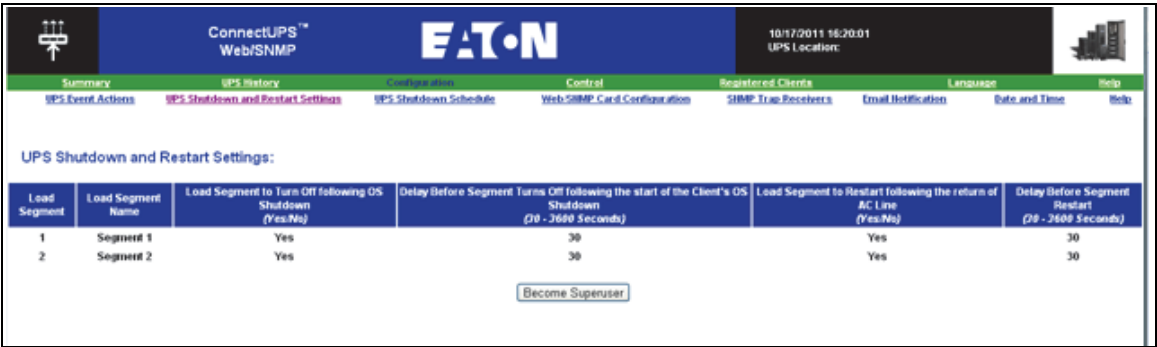

Figure 61. UPS Shutdown and Restart Settings
- For ConnectUPS-X Slot or ConnectUPS-BD network cards, the Network Management Card default shutdown configuration is available from **Configuration > UPS Shutdown and Restart Settings** (see Figure 61).
- For ConnectUPS-X Slot or ConnectUPS-BD network cards, the NMC default shutdown configuration is available from **Configuration > UPS Shutdown and Restart Settings** (see Figure 61)